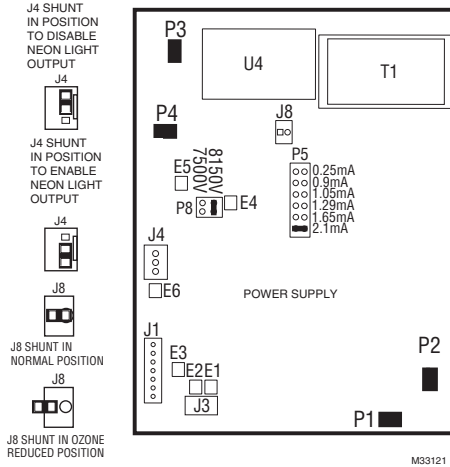

Fig. 18. Components of replacement power supply.
- 3** FOR UNITS WITH NEON LIGHT CONNECTED TO E5 AND P6, REMOVE SHUNT FROM CONNECTOR J4. SEE COMPONENTS OF REPLACEMENT POWER SUPPLY FIGURE 18.
- d. Locate J8 Shorting Bar on the power supply. See Fig. 18. Remove the shorting bar and reinstall on only one pin.